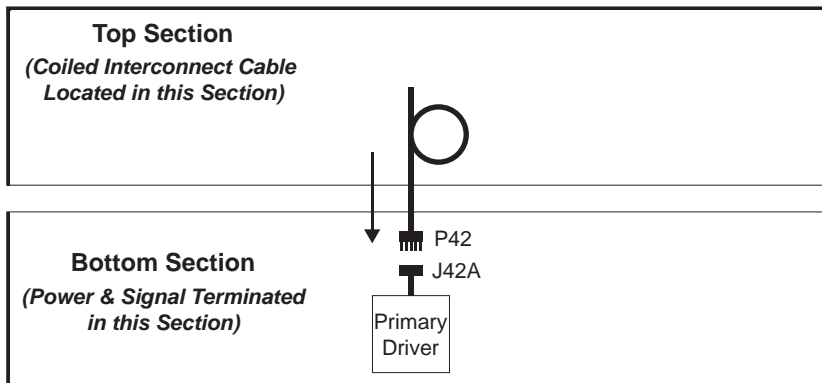

Figure 25: Power/Signal Connection – Two Sections, Excluding BA Models (Front View)
Open the appropriate access panel on the Top Section to locate the coiled bundle of interconnect cable coming from the driver, then route and connect the cables as described below and shown in **Figure 25**. Additional panels may be opened as needed for easier access.
- For the BA-1518 with red/amber digits, there are five 9-pin digit harnesses (**P1–P4 & P15**) in the Top Section that must be routed down into the Bottom Section and plugged into the mating jacks (**J1–J4 & J15**) on the Primary Driver. For the BA-1518 with white digits, there is a single 5-pin interconnect cable coiled in the Top Section that must be routed down into the Bottom Section and connected to the **J42A** jack on a Y-cable coming from the Primary Driver (refer to **Figure 25**).